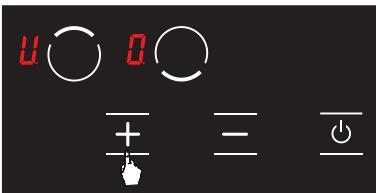

Figure 10
3. Then, press the **+** key once. The **W** icon shall be displayed in the relevant hob with this touch. (see Fig. 10) Thus, the keep warm shall be activated.